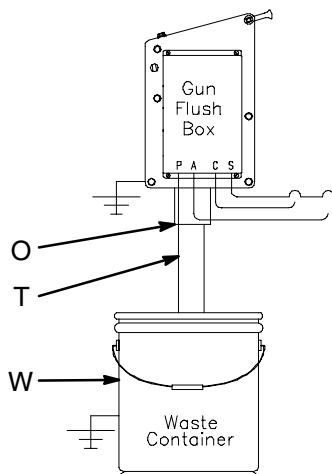
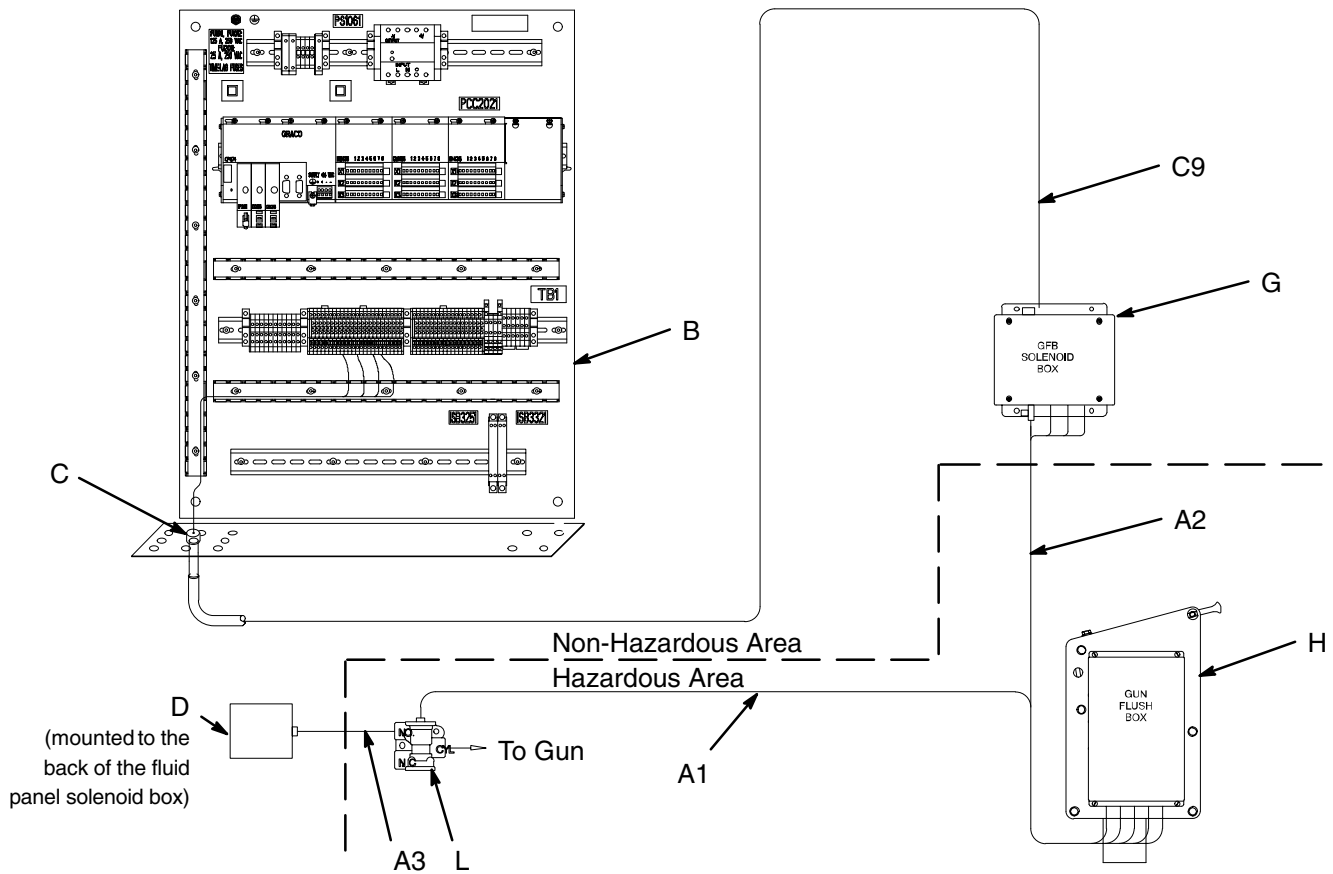

Fig. 3.14
Fig. 3.17 One Gun Flush Box Installation
1. See Fig. 3.17. Install the gun flush box (H) in the spray booth. Locate the Gun Flush Box as far away from the spray or application point as possible to help avoid getting over-spray on it.
2. Install the gun flush solenoid box (G) in the non-hazardous area, within 25 ft. (7.6 m) of the gun flush box. 100 ft. (30.5 m) of cable (C9) is provided, connecting the solenoid box with the controller (B).
3. Connect two feet (0.6 m) of straight pipe or tubing (T) between the Gun Flush Box fluid outlet (O) and an enclosed waste container (W). See Fig. 3.14.
5. Use a clean, dry air supply; filtered to 10 microns. Connect a minimum 3/8 in. (10 mm) air supply line to the gun flush box solenoid box (G).
6. Install an atomizing air shutoff valve (L) in the spray gun air supply line. See Fig. 3.17 or 3.18.
7. Connect an air line (A3) between the valve (L) and the air flow switch (D).
- * Connect to the atomizing air shutoff valve (L). See Figs. 3.17 and 3.18.